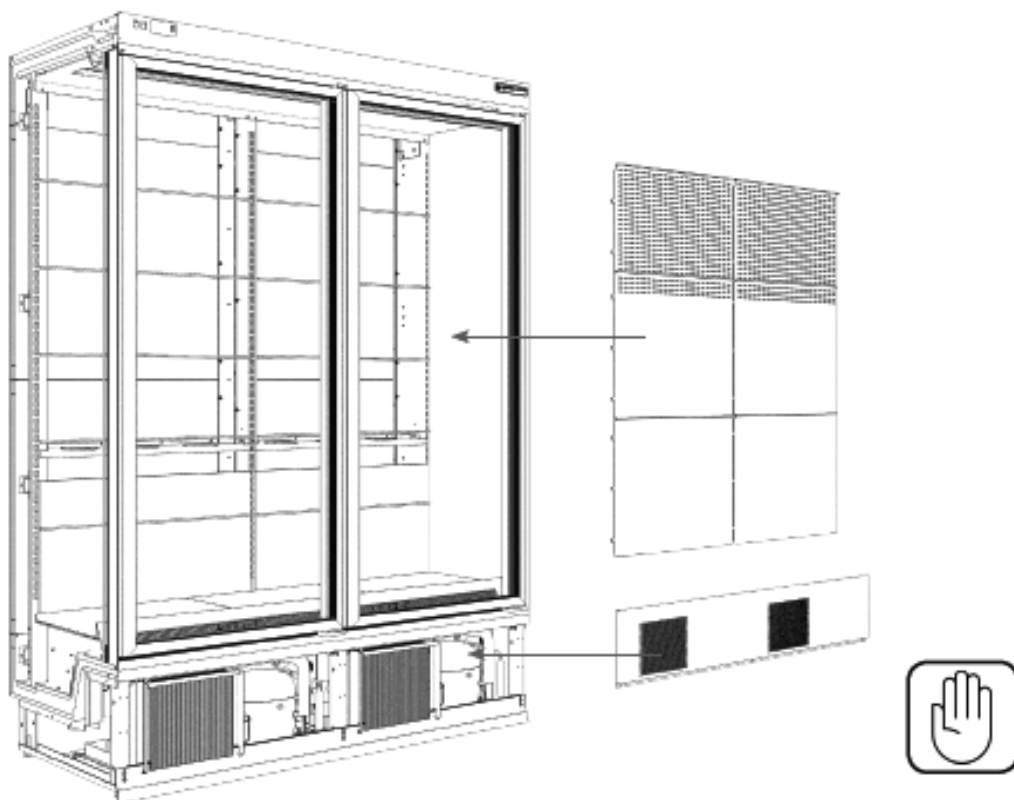

Fig. 19. Dismantling the perforated wall and air intake
2. Remove the perforated wall (Fig. 19).
3. Remove the air intake (Fig. 19).